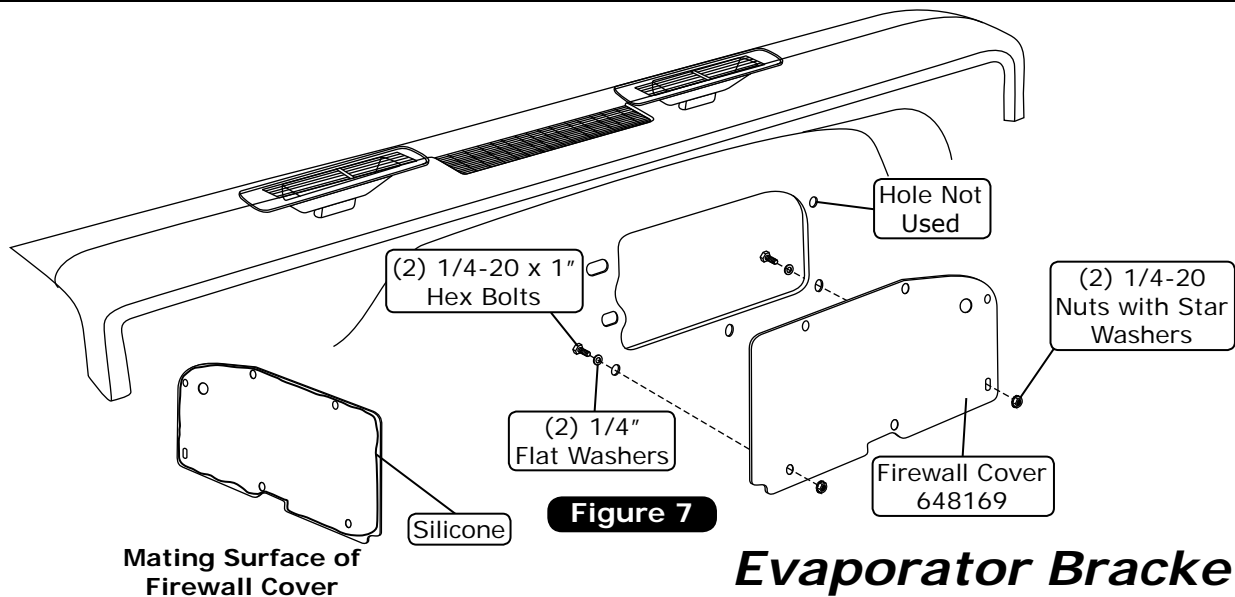

Figure 7
1. Apply a 1/4" bead of silicone around the mating surface of the firewall cover as shown in Figure 7, below.
2. From the passenger compartment, install the firewall cover onto the firewall. Secure the firewall cover to the firewall using (2) 1/4-20 x 1" hex bolts, (2) 1/4" flat washers and (2) 1/4-20 nuts with star washers as shown in Figure 7, below.